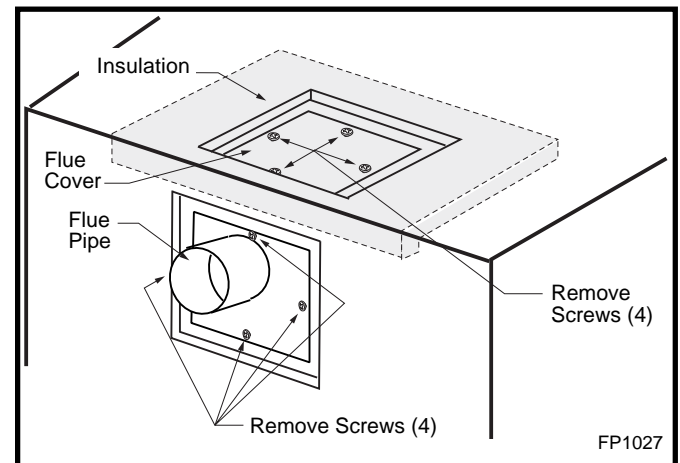

Fig. 11 Remove flue cover and flue pipe.
3. Remove insulation from top of unit and discard. Remove the four (4) screws securing flue cover to top of unit and remove flue cover. (Fig. 11)
4. Remove the four (4) screws securing flue pipe to back of unit. Remove flue pipe. (Fig. 11)